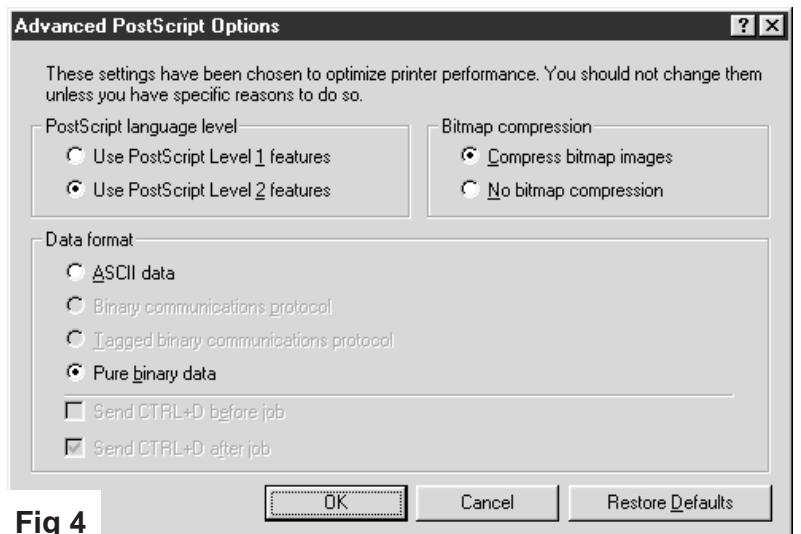

Fig 4
5. Click Advanced and select PostScript Level 2, Compress Bitmaps and Pure Binary Data. (Fig 4)